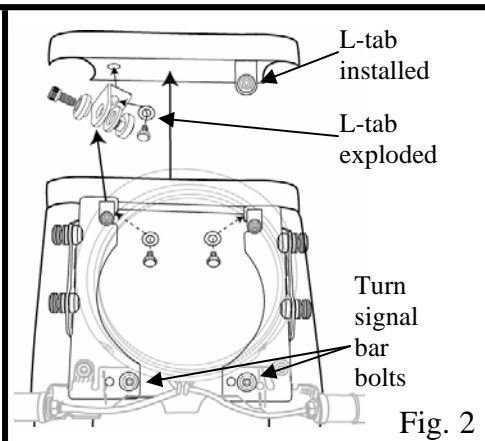

Fig. 2
3. Locate the two cast 8mm holes (not being used) underneath the upper triple tree brace. Using the new 8mm x 12mm SS Hex Cap Screws and washers (provided in bag), install one L-tab in each hole. Face the L-tabs forward and flush with the front of the upper triple tree and loosely tighten (see fig. 2)